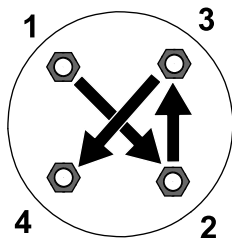

Figure 8
2. Torque the lugnuts (in a crossing pattern as shown in Figure 8) to 108 to 122 N·m (80 to 90 ft-lb).